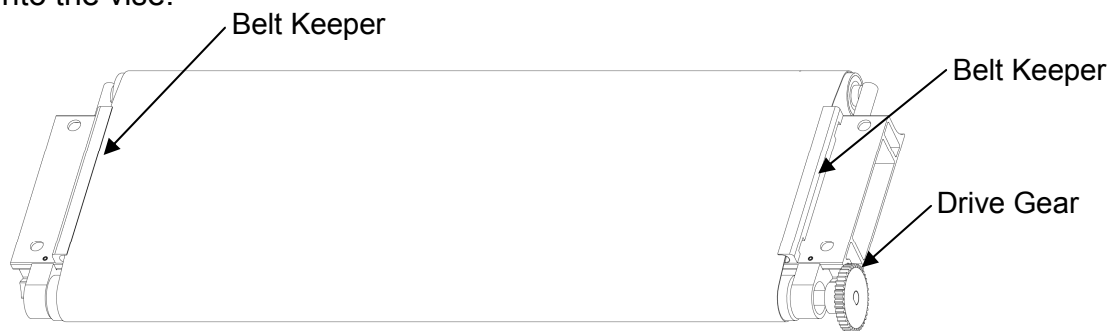

FIGURE 10: BOTTOM VIEW OF THE FRONT BELT TRAY SHOWING THE BELT KEEPERS
17. **Assemble the new rubber belt.** Slide the new belt over the tray from the end opposite the drive gear. The belt needs to be placed between the two belt keepers as shown in Figure 10. Remove the retaining pins from the slide rods by applying a small amount of force to the tensioning roller and pulling them out or by reinserting the tray into the vise.